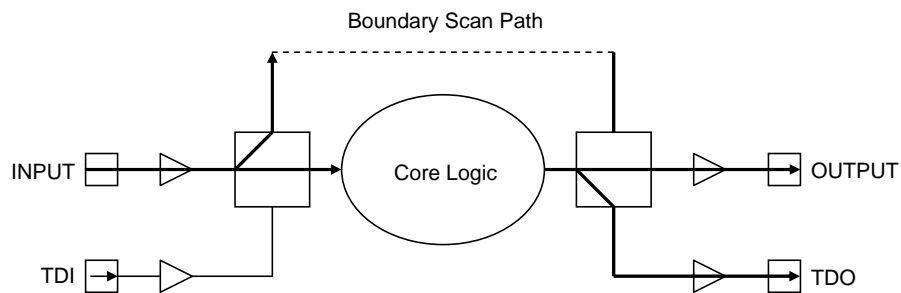

Figure 21.9 Test Data Flow While SAMPLE is Selected
- **SAMPLE** allows the input and output pads of an IC to be monitored. While it does so, it does not disconnect the system logic from the IC pins. The SAMPLE function occurs in the Capture-DR controller state. An example application of SAMPLE is to take a snapshot of the activity of the IC's I/O pins so as to verify the interaction between ICs during normal functional operation. The flow of data for the SAMPLE phase of the SAMPLE/PRELOAD instruction is shown in Figure 21.9.